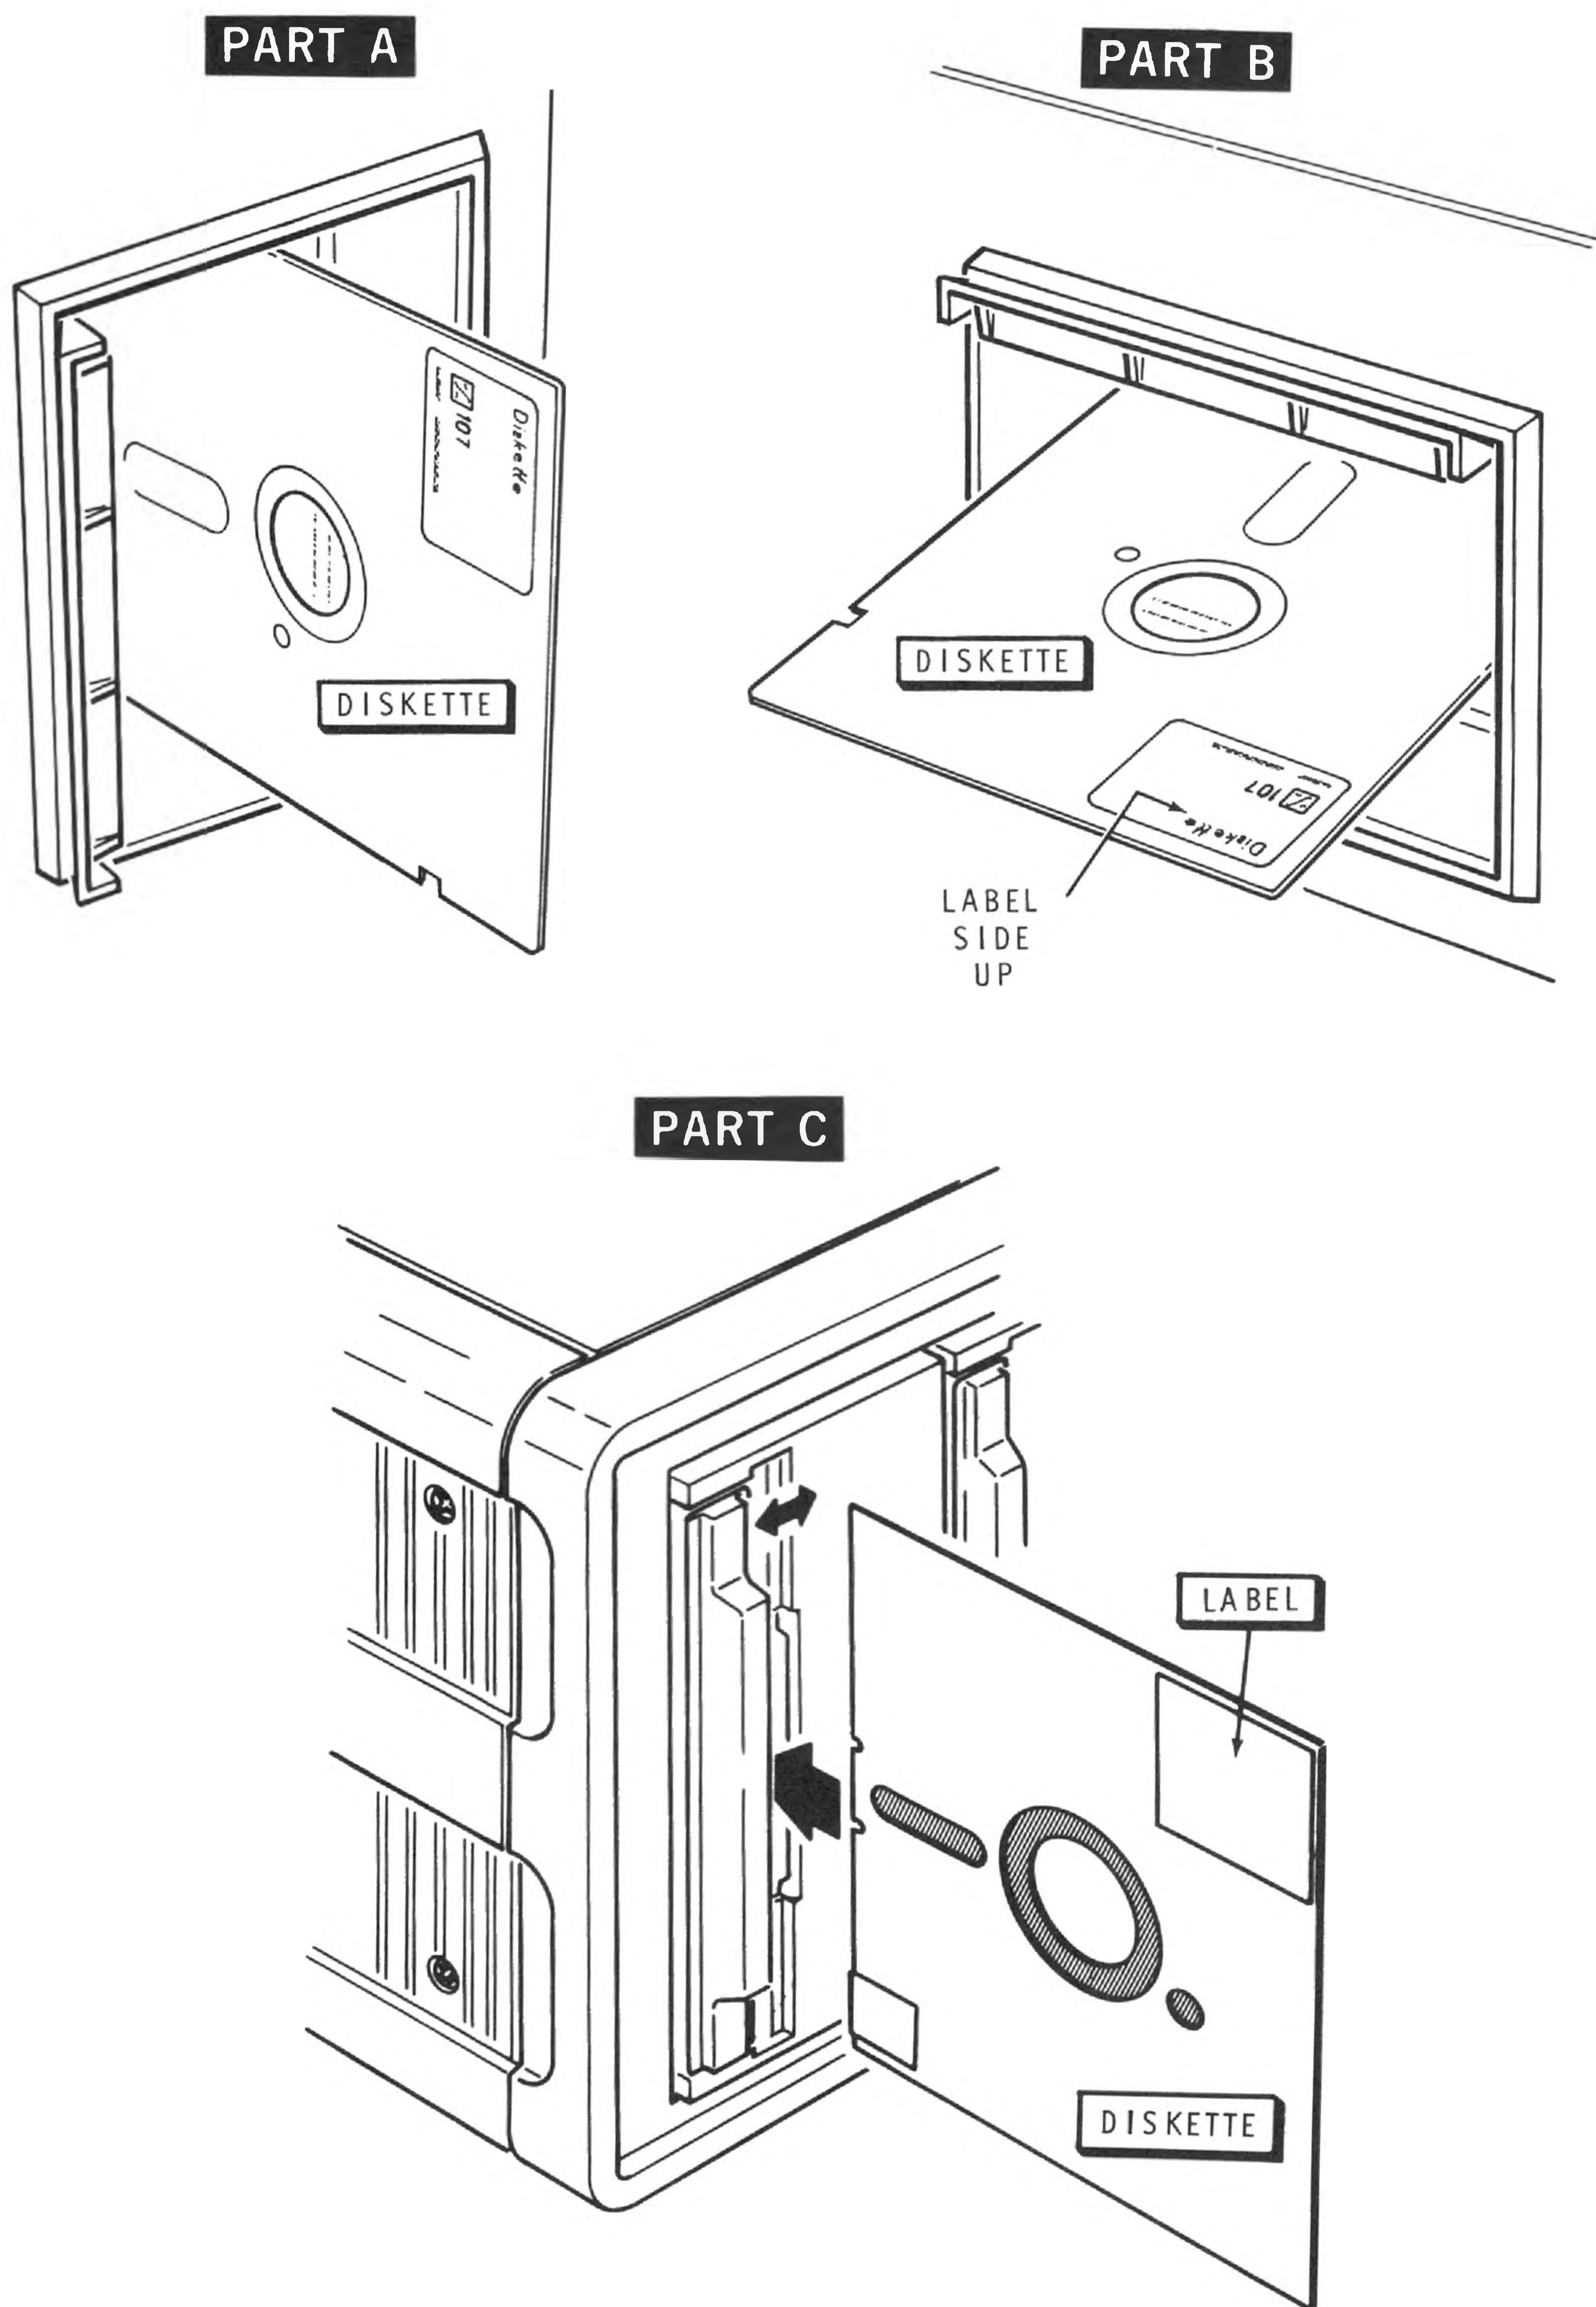

Figure 1-2
- () 3. Insert the distribution diskette into the drive that has been hardware configured as primary boot drive \emptyset (see Figure 1-2). Close the door of the drive unit after you have inserted the diskette.